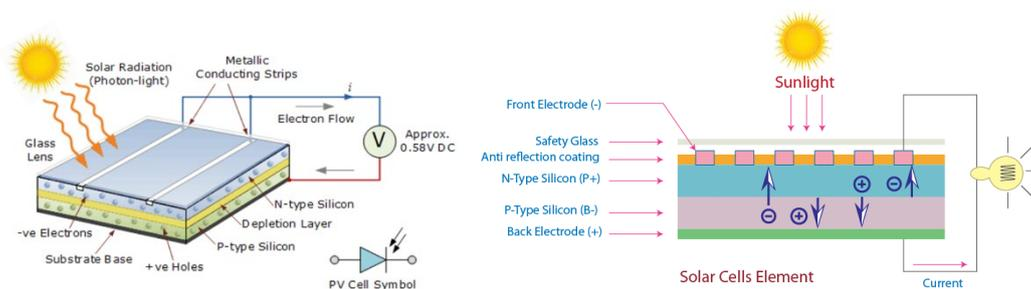

Figure-29. Working Principle of PV Cell and PV Cell Structure
Figure-29 illustrates a solar photovoltaic (PV) cell with a p-n junction configuration. In this diagram, one of the electrical contacts is formed by the bulbars, which also serves the dual purpose of allowing sunlight transmission.